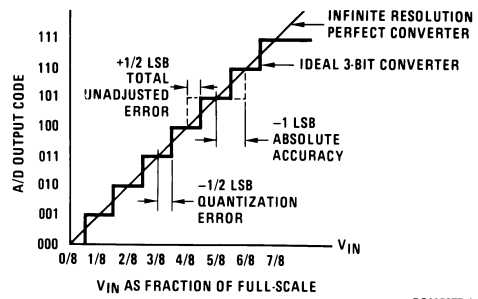

FIGURE 3. 3-Bit A/D Absolute Accuracy Curve
**Note 5:** Total unadjusted error includes offset, full-scale, and linearity errors. See Figure 3. None of these A/Ds requires a zero or full-scale adjust. However, if an all zero code is desired for an analog input other than 0.0V, or if a narrow full-scale span exists (for example: 0.5V to 4.5V full-scale) the reference voltages can be adjusted to achieve this. See Figure 13.